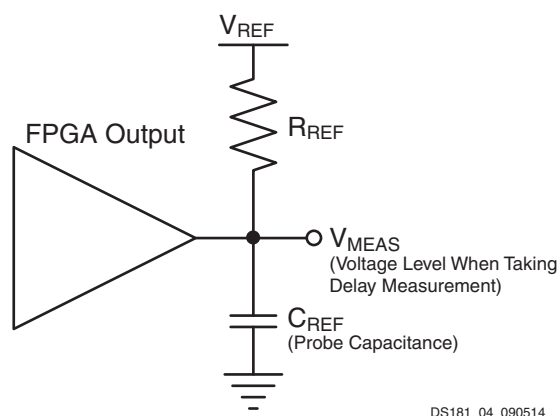
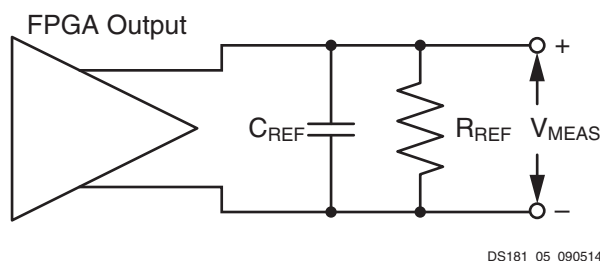

Figure 1: Single-Ended Test Setup
Figure 2: Differential Test Setup
4. This is an input voltage reference that bears no relation to the  $V_{REF} / V_{MEAS}$  parameters found in IBIS models and/or noted in Figure 1.
Output delays are measured with short output traces. Standard termination was used for all testing. The propagation delay of the trace is characterized separately and subtracted from the final measurement, and is therefore not included in the generalized test setups shown in Figure 1 and Figure 2.